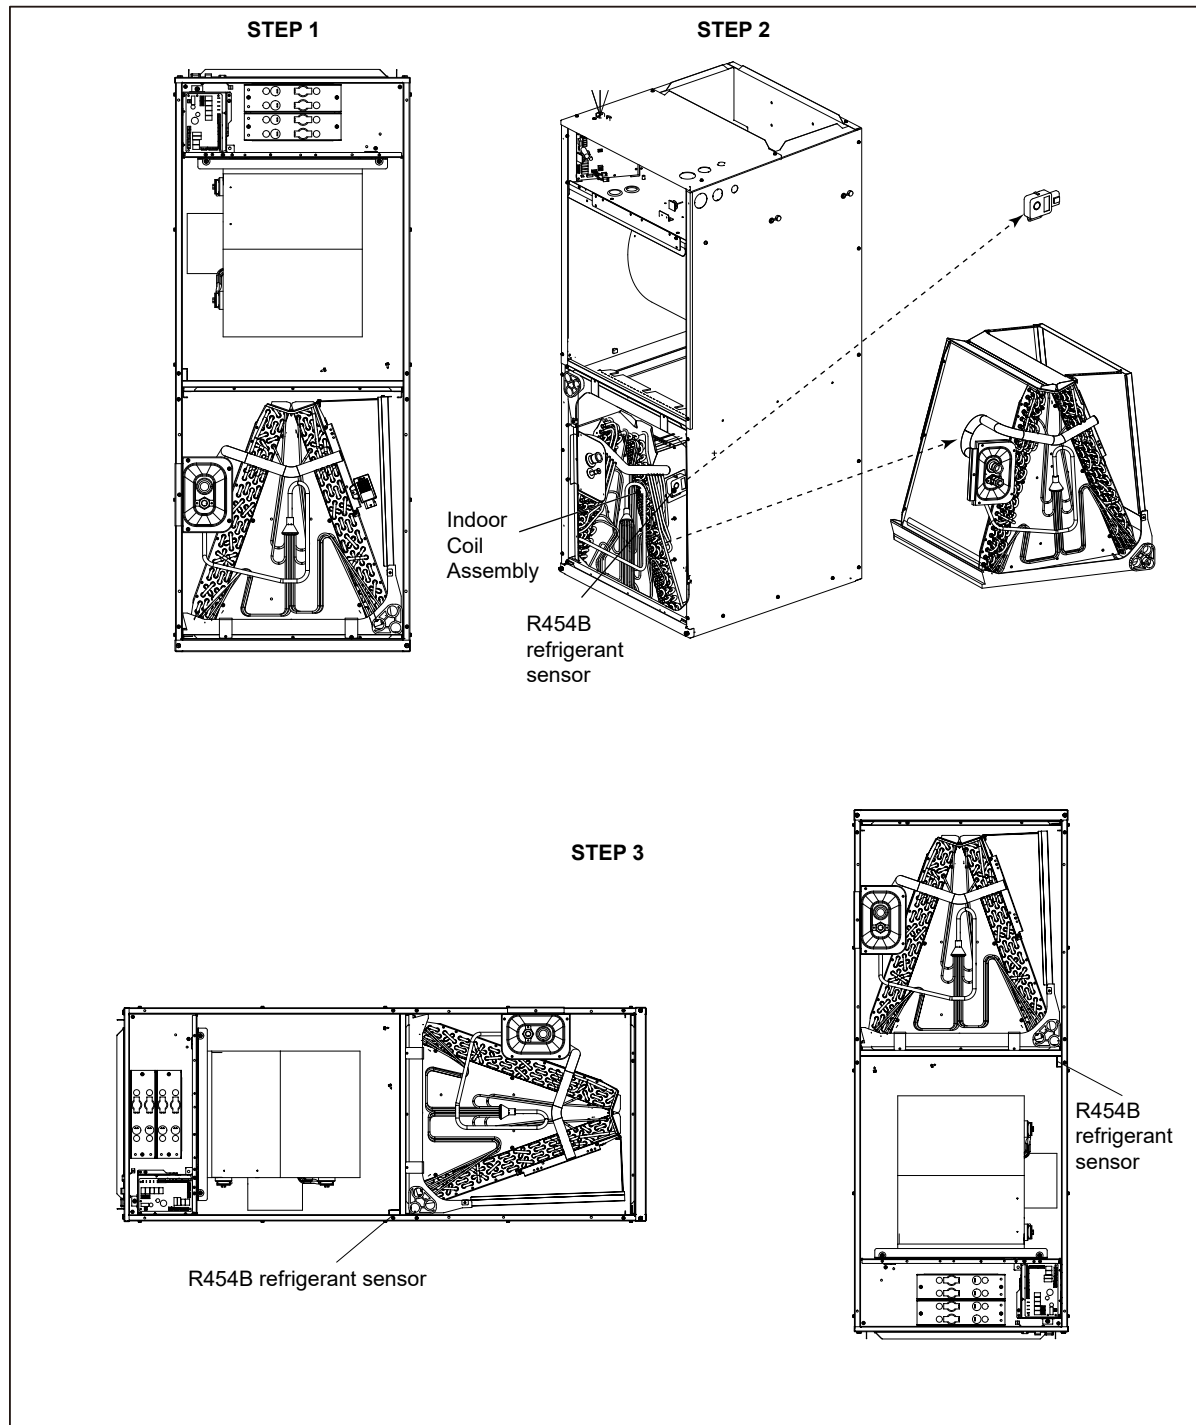

Fig.3-10 Vertical Downflow & Horizontal Left Applications Conversion
4. Reinstall the refrigerant sensor at the location shown in Fig.3-10.
A vertical upflow unit may be converted to horizontal left by removing the indoor coil assembly and the refrigerant leak detection sensor. Reinstall the indoor coil and the refrigerant sensor for left hand air supply. See Fig.3-10.
- Reinstall the indoor coil 180° from original position. Ensure the retaining channel is fully engaged with the coil rail. See Fig.3-10 and 3-11.
2. Pull out the coil with refrigerant sensor (Figure 3-10, Step 2).
3. Unscrew and remove the refrigerant sensor and housing from the evaporator coil. Then place and screw in the refrigerant sensor housing at the sensor position shown in the Figure 3-10.
4. Replace the coil in the correct orientation and secure in place. Plug the refrigerant sensor wire back to the controlboard(Figure 3-10, Step 3).